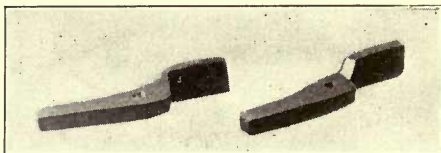

FIG. 55. TWO HEADS OF STRAIGHT LIP TONGS.
1. From a $\frac{3}{4} \times \frac{3}{4} \times 5$ -inch piece of iron forge to the shape and dimensions shown in Plate 29 and Figs. 55 and 56. The top and front views of the head, Plate 29, especially should be studied. If necessary, upset the end a trifle to get a full 1-inch width for the lips.
2. File the corners a trifle if necessary, Fig. 55, so that the two parts will fit closely.